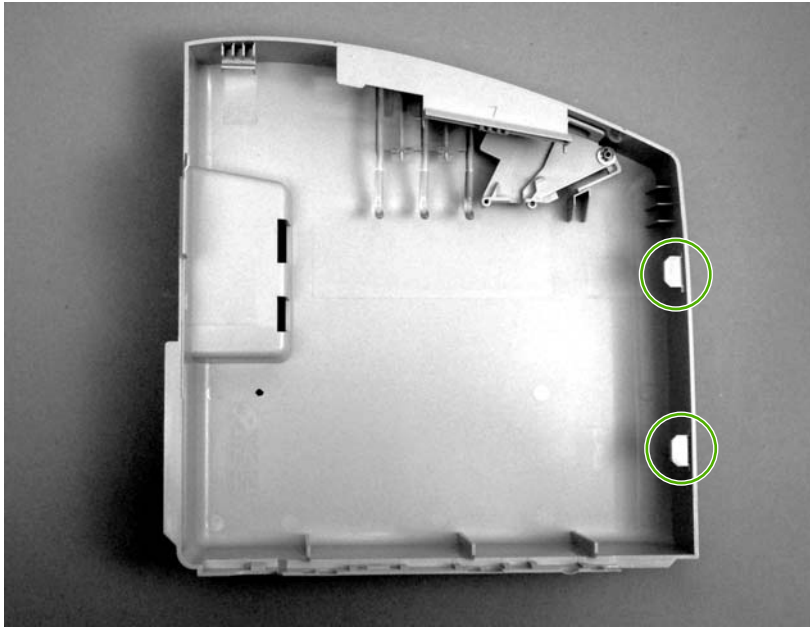

Figure 5-5 Remove the right-side cover (1 of 4)
- 1 Before removing the cover, examine Figure 5-5 Remove the right-side cover \(1 of 4\) on page 68 and note the location of tabs on the cover.